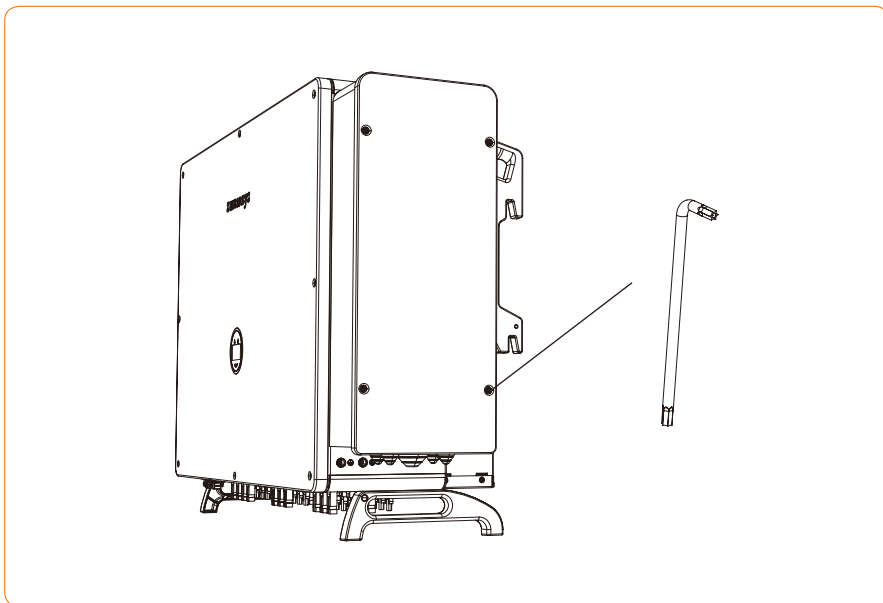

Figure 4-23
④ Put back the right side cover and lock with its original screws. As shown in Figure 4-23: